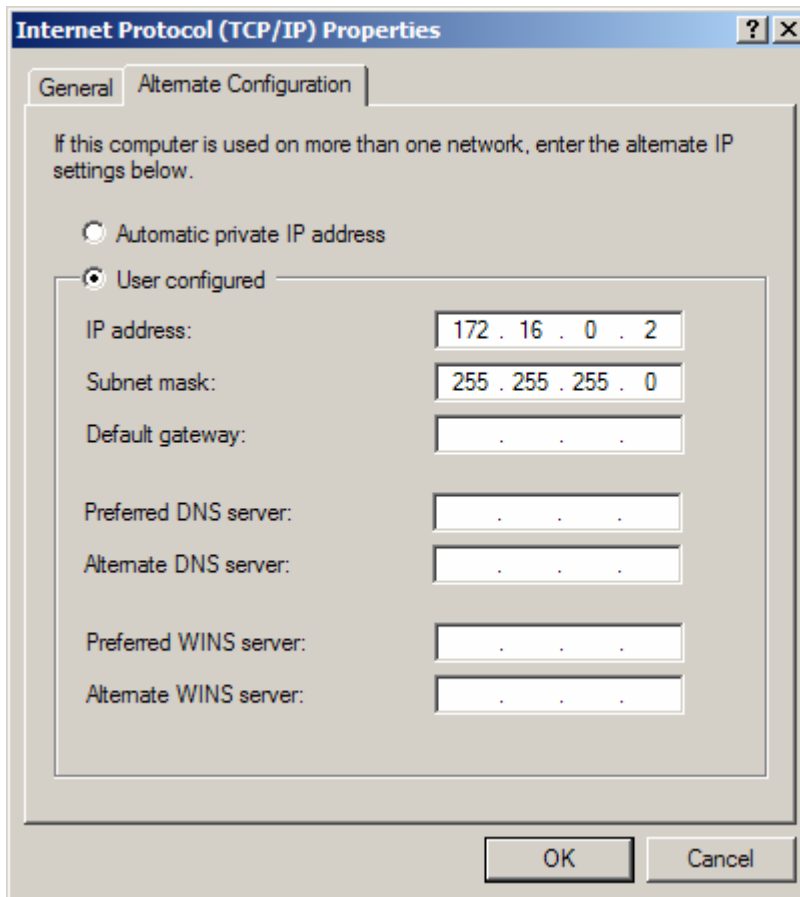

Figure 5
7. In the "Internet Protocol (TCP/IP) Properties" click on the "Alternate Configuration" tab. See Figure 5.
9. Enter the IP address and Subnet Mask as shown in Figure 5.